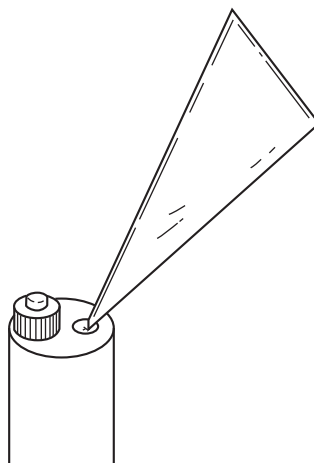

Figure 3.2 Pouring KCl Powder into Sensor
- (2) Remove the sensor from its holder. Wipe off dirty areas on the sensor tip.
- (3) Remove the liquid junction from the sensor. Leave the glass electrode mounted securely.
- (4) Drain the KCl solution in the sensor through the liquid junction mounting hole.
- (5) Wash the inside of the sensor, Pour about a 10 ml KCl solution (or pure Water) into the sensor from the liquid junction mounting hole. Shake the sensor and then drain the solution or pure water completely from the sensor.
- (6) Pour about 10 or 12 grams of powder into the sensor, Use a bag of KCl powder when using the optional KCl solution kit, Cut off the tip of the bag and follow Figure 3.2 below. If the KCl powder has hardened, break it up into pieces. Then do the above.